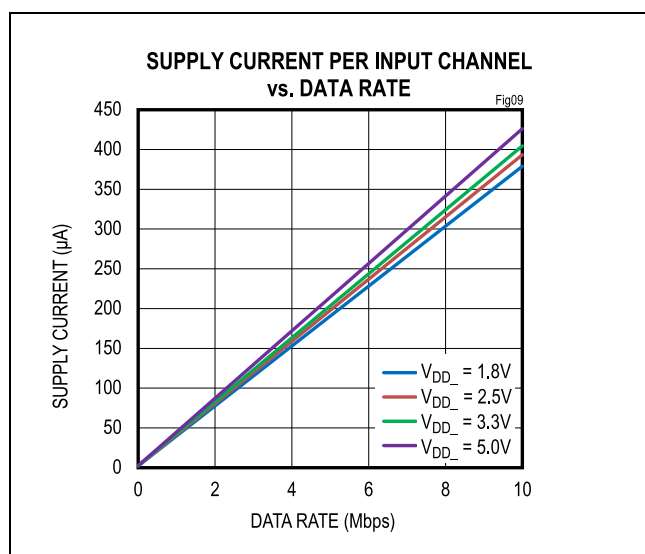
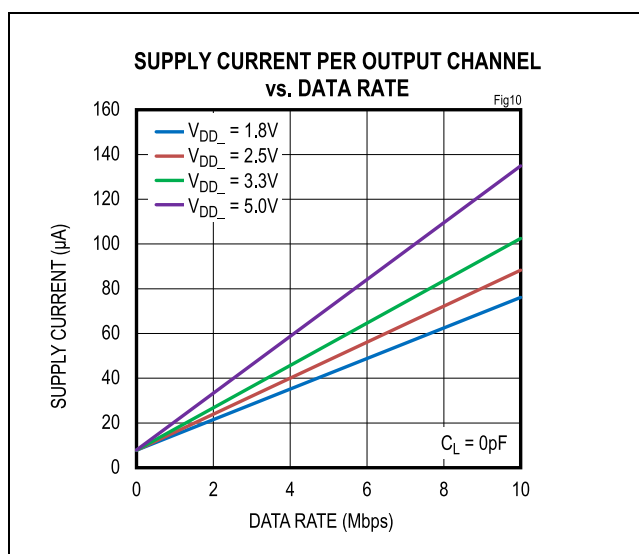

Figure 9. Supply Current per Input Channel (Estimated)
Figure 10. Supply Current per Output Channel (Estimated)
The required current for a given supply (V_{DDA} or V_{ddb}) can be estimated by summing the current required for each channel. The supply current for a channel depends on whether the channel is an input or an output, the channel's data rate, and the capacitive or resistive load if it is an output. The typical current for an input or output at any data rate can be estimated from the graphs in Figure 9 and Figure 10. Note that the data in Figure 9 and Figure 10 are extrapolated from the supply current measurements in a typical operating condition.
The total current for a single channel is the sum of the no load current (shown in Figure 9 and Figure 10), which is a function of voltage and data rate, and the load current, which depends on the type of load. Current into a capacitive load is a function of the load capacitance, the switching frequency, and the supply voltage.
- Channel 1 is an output channel operating at 2.5V and 2Mbps, consuming 23.93μA, estimated from Figure 10.
- Channel 2 is an input channel operating at 2.5V and 10Mbps, consuming 393.35μA, estimated from Figure 9.
- Channel 1 is an input channel operating at 3.3V and 2Mbps, consuming 82.92μA, estimated from Figure 9.
- Channel 2 is an output channel operating at 3.3V and 10Mbps, consuming 102.49μA, estimated from Figure 10.